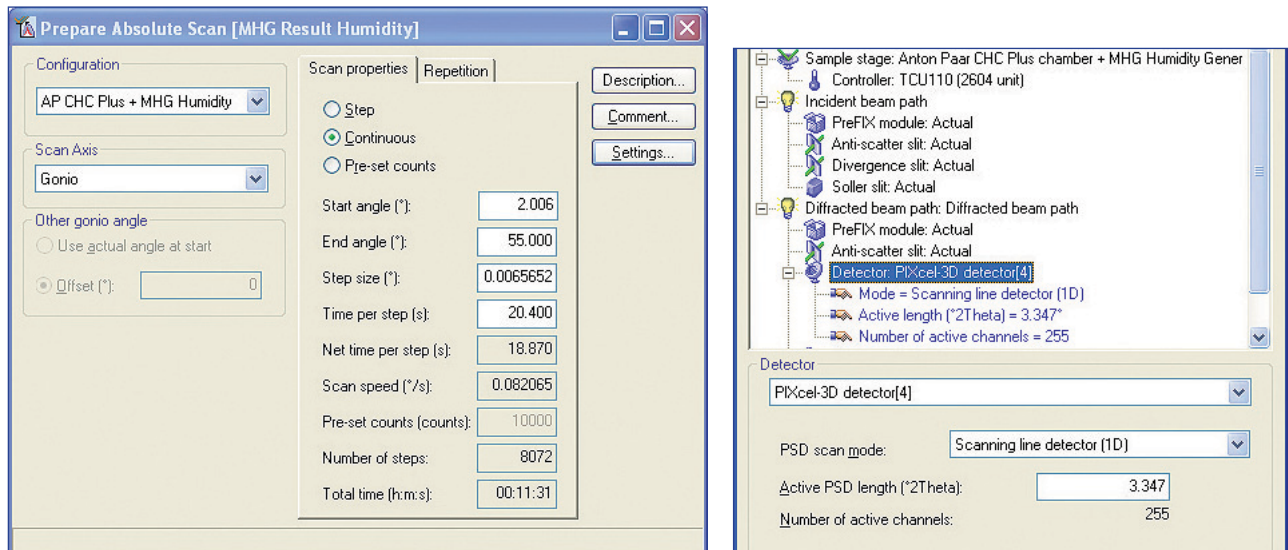

Figure 41. Example for a result measurement program of type *Absolute* for line detectors.
4. Change the default measurement parameters of scan axis, start angle, end angle, step size, and time per step to the desired ones, see for an example Figure 41.
Save this result measurement program under your desired name appropriate for your sample, for example *MHG Result Humidity* as shown in Figure 41.